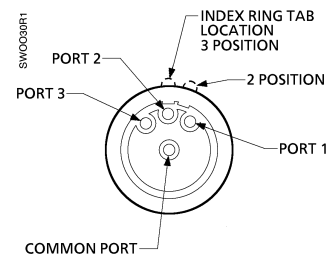

Figure 2. Positioning Switch Ports.
1. Insert the provided tubing connectors into ports on the back of the switch body. See *Figure 2*.
- Pipe the selector switch noting that the center port is the supply port (*Figure 2*).
- Insert the provided tubing connectors into ports on the back of the switch body. See *Figure 2*.
- Insert the switch body through the clear plastic bezel and the dial label. Attach the tubing to the appropriate ports. The center port is the supply port. See *Figure 2*.